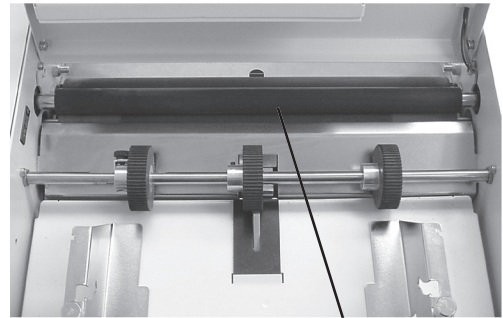

Fig. 17
1. Make sure machine is turned off and unplugged. All folders have four (4) rubber rollers (Fig. 17).